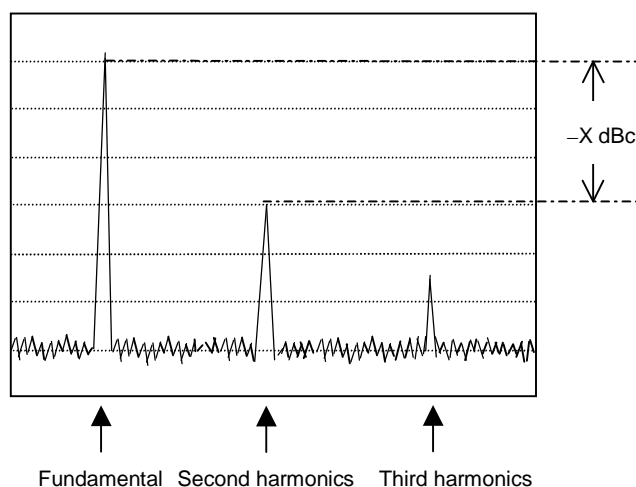

Fig. 9.1.10-1 Harmonics
4. Adjust the reference level to the fundamental wave as shown in Fig. 9.1.10-1.